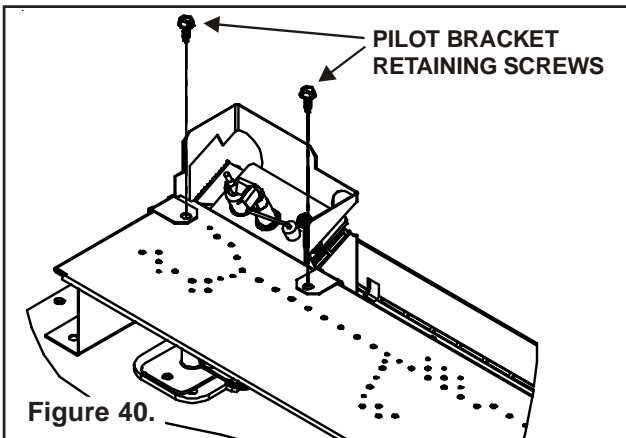

Figure 40.
- Unscrew the brackets at both ends of the burner and the retaining screws at the pilot bracket (see Figure 40). Slide the burner towards the right away from the burner orifice.